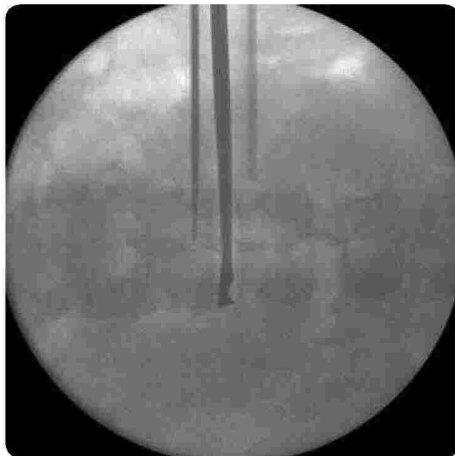

Figure 34
**Step 8** Serrated curettes, a Ring curette, Combo Tools are used to ensure proper end plate preparation. It is extremely important that the end plates be meticulously prepared for fusion by removing the cartilaginous disc without destroying the cortical end plates (**Figure 34 and 35**).